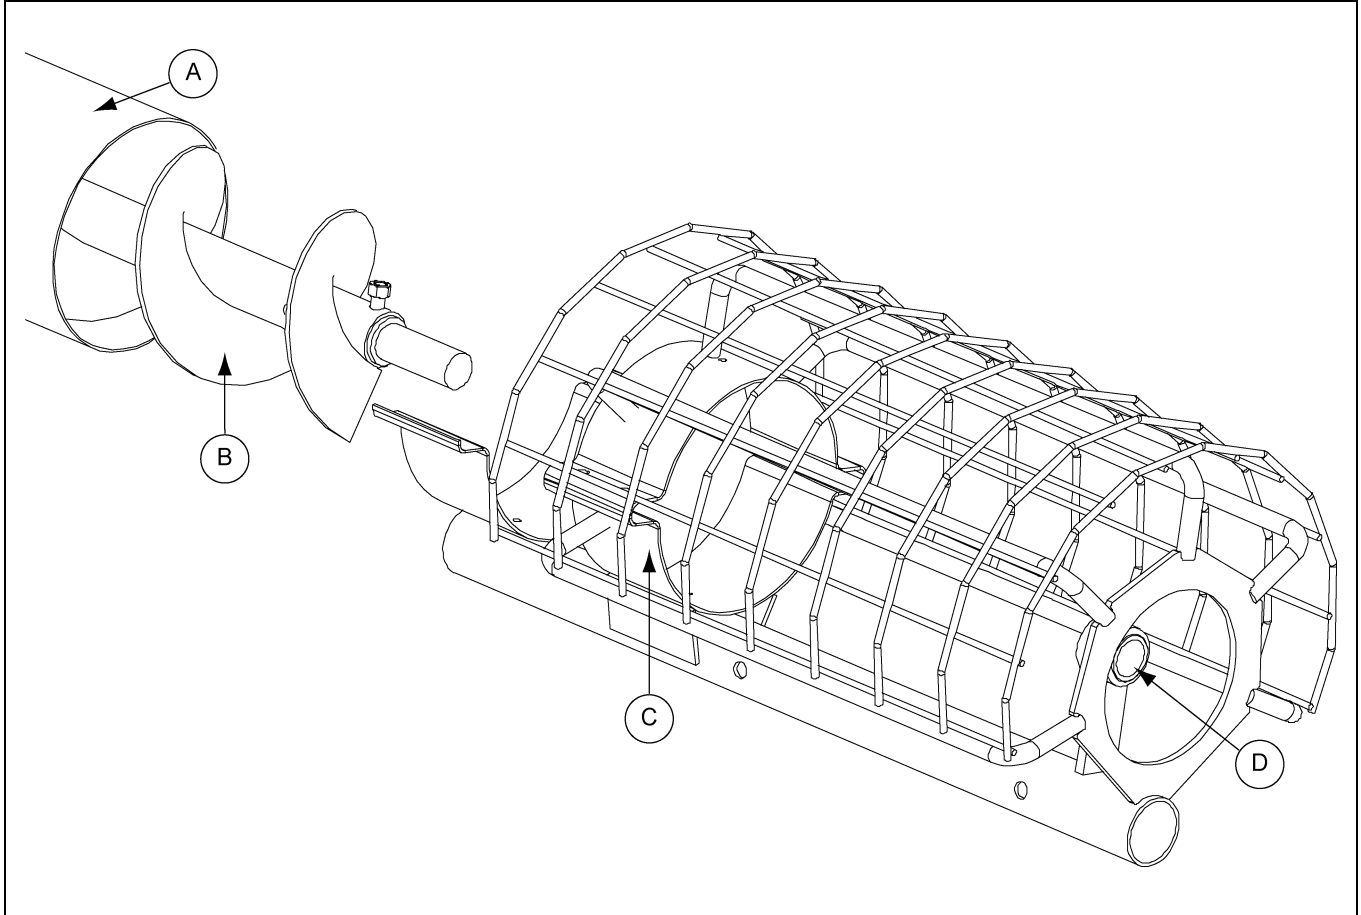

Figure 4G
1. Slide the intake guard (C) onto the auger tube (A) aligning the intake shaft (E) with the bronze bushing (D). (See Figure 4G.)